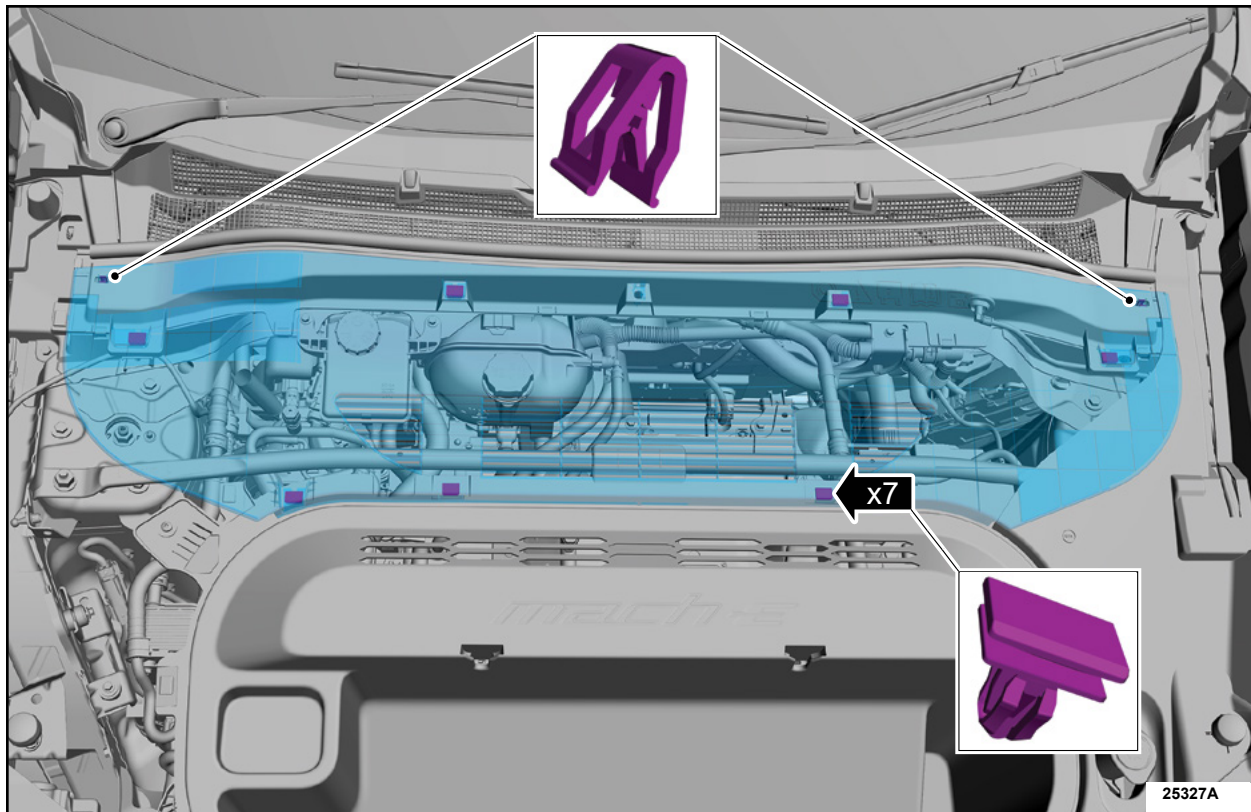

FIGURE 1
2. Detach the retainers and remove the underhood center cover. See Figure 1.